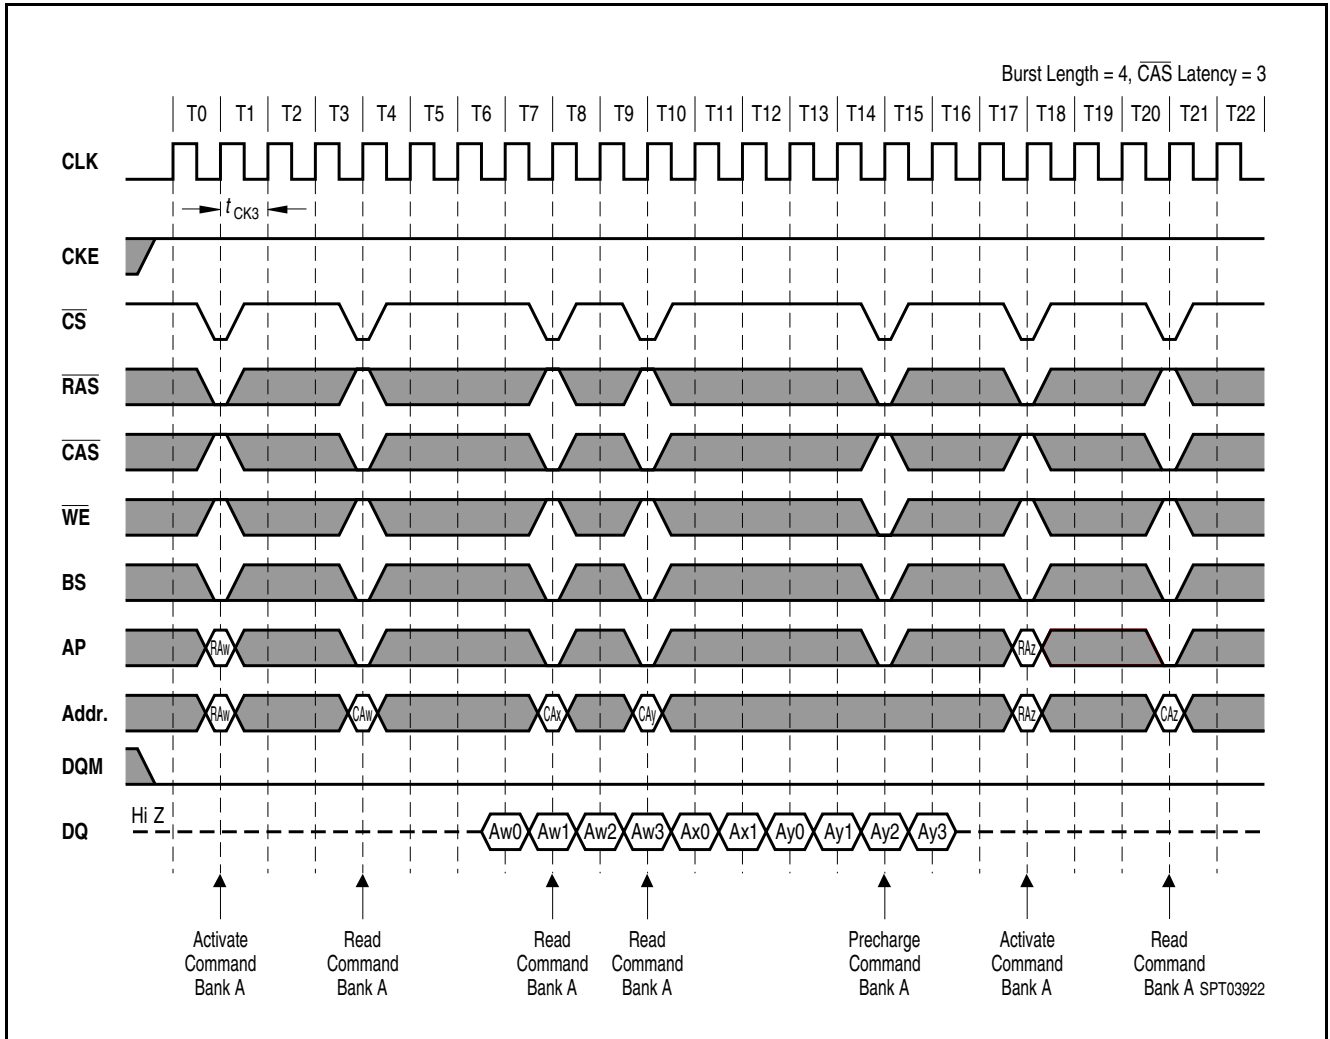

Figure 28 CAS Latency = 3
- **Figure 28** CAS Latency = 3